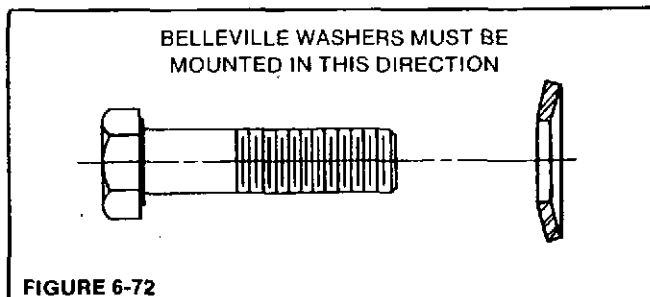
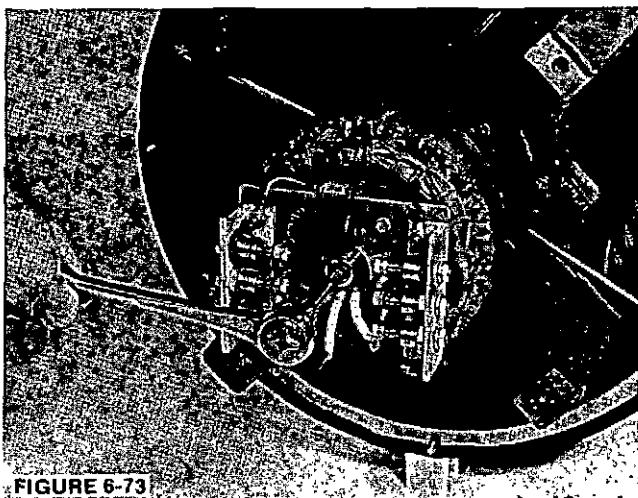
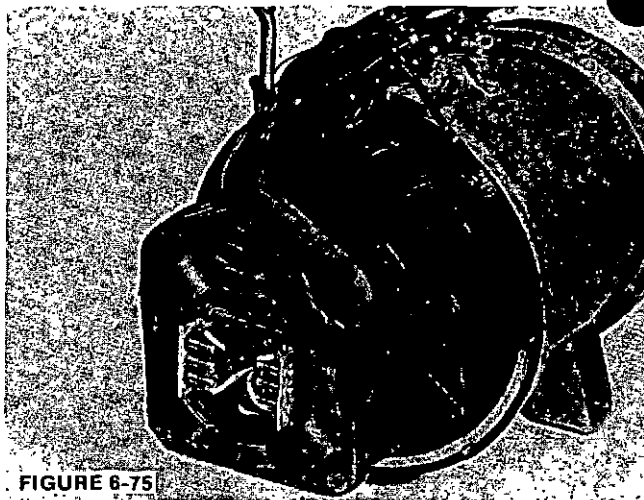

FIGURE 6-72
FIGURE 6-73
FIGURE 6-75
Insert the cap screw and Belleville washer (Figure 6-72.) through the mounting hole in the aluminum standoff plate and secure to the shaft (Figure 6-73). Tighten the cap screw until the armature seats on the shaft. Torque to 84 lb-ft (114 N-m).
3. Position the exciter field leads at the left (9:00 o'clock) inboard position. Using a suitable lifting device, mount the exciter stator on the front end bracket mounting pads and align the mounting holes. (Figure 6-75.) Mount with the cap screws and Belleville washers. (Figure 6-72.) Torque the cap screws to 60 ft-lb (81 N-m). Route and secure the exciter stator leads away from any moving parts.